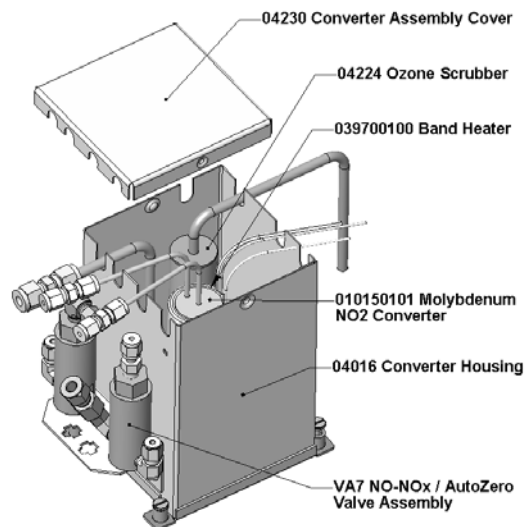

Figure 9-4: NO₂ Converter Assembly
1. Locate the scrubber on the outside rear panel. Figure 3-4 shows the location, Figure 9-4 the exploded assembly.
The NO₂ converter is located in the center of the instrument, see Figure 3-1 for location, and Figure 9-4 for the assembly. The converter is designed for replacement of the cartridge only; the heater with built-in thermocouple can be reused.